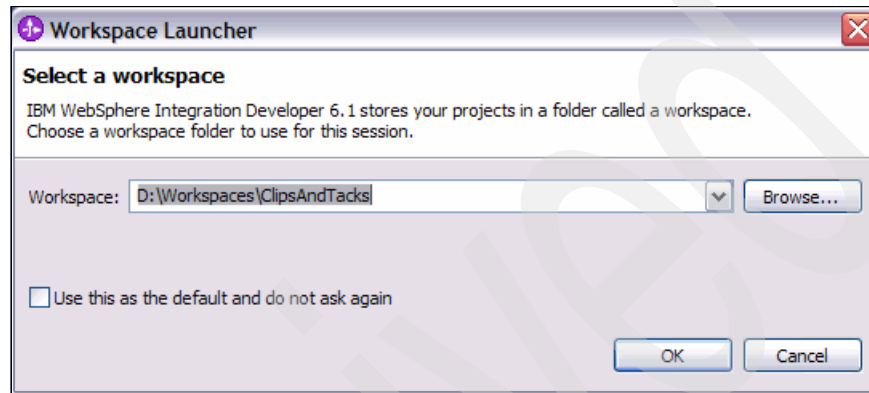

Figure 5-3 Creating a ClipsAndTasks workspace
- b. During the startup, when you see the Workspace Launcher window (Figure 5-3), in the Workspace field, select a new workspace and click **OK**.